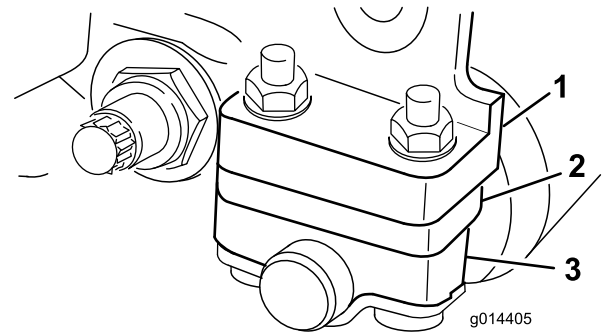
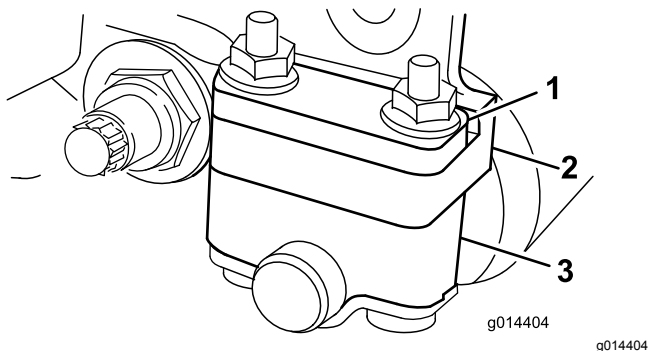

Figure 7
Figure 6
Depending on your desired height-of-cut range, you need to adjust the rear-roller brackets (Figure 6 or Figure 7) to the low or high position:
- Position the spacer above the sideplate-mounting flange (factory setting) when the height-of-cut settings range from 1.5 mm to 6 mm (1/16 inch to 1/4 inch) as shown in Figure 6.
- Position the spacer below the sideplate-mounting flange when the height-of-cut settings range from 3 mm to 25 mm (1/8 inch to 1 inch) as shown in Figure 7.
4. Place the spacers onto the bolts above or below the roller brackets, as required (Figure 6 or Figure 7).